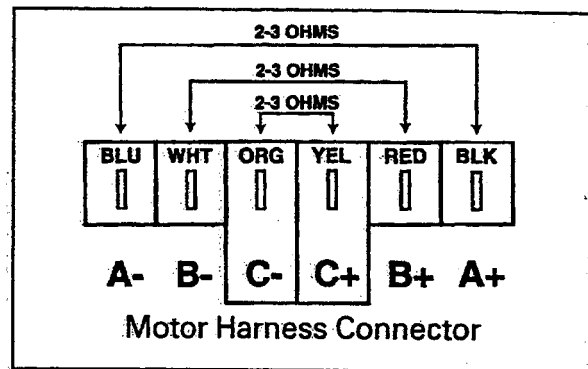

Figure 2-55
Refer to section titled "Motor Control" for board identification of A, B and C terminal/harness identification (Figure 2-55). Also, see the wiring schematic for harness identification.
2. Remove each pair of phase wires from the motor control and perform an ohms check of each wire leading to the motor. Each wire pair should show 2-3 ohms resistance (*Figure 2-55*).